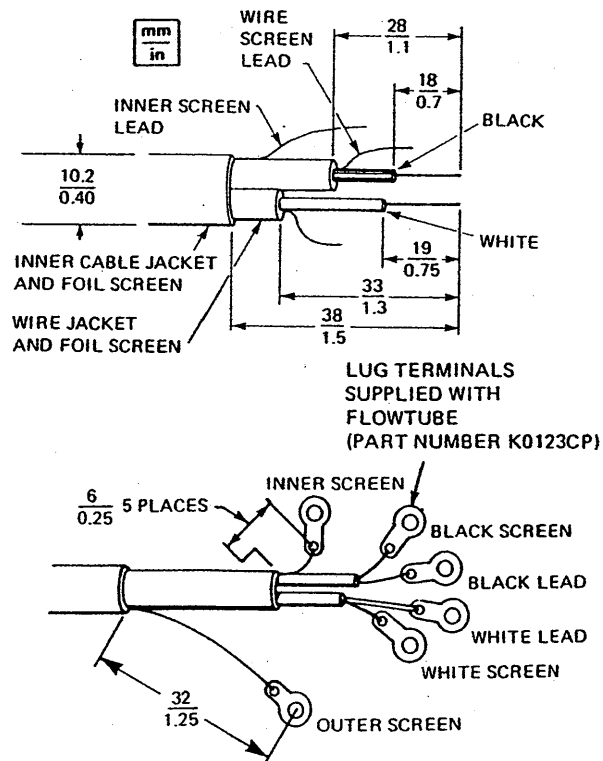

Figure 29.
- Strip back inner jacket and foil screen as shown in Figure 29. Do not cut inner screen lead.
- Strip back lead jackets and foil screens as shown (Figure 29). Do not cut screen leads.
- Strip insulation from black and white leads as shown (Figure 29).
- If connections to terminal lugs are desired, connect lugs (supplied by user) to leads as shown in Figure 29.